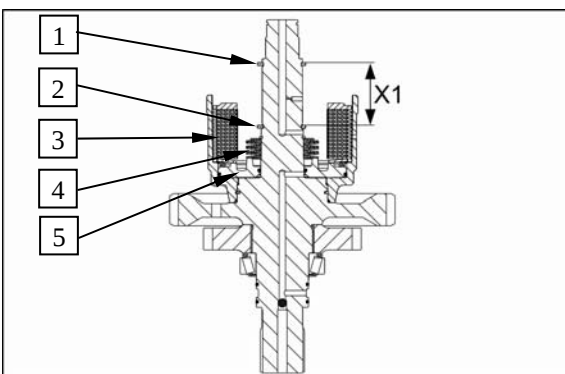

Figure 45
Determine dimension „X1“ from retaining ring (1) to retaining ring (2) → see Figure 45.